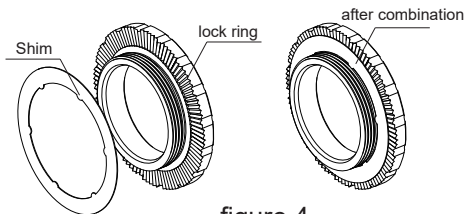

figure 4
4. Combine the shim with lock ring(already combined when received product,please proceed directly to the next step) (figure 4)